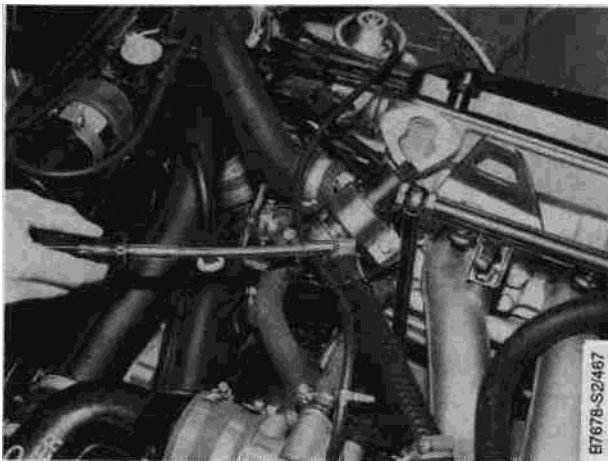

Fig. 29. AIC valve hose clamp being loosened
2. Loosen the valve's hose clamps and disconnect the hoses from the valve. See Fig. 29.
- Loosen the dashpot locknut and turn the dashpot so that its operating rod moves away from the throttle lever. See Fig. 29 above.